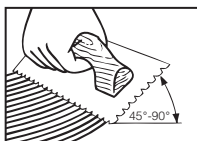

Figure 11
- Hold trowel at a minimum 45° angle (Figure 11) firmly against the subfloor to obtain a 40-60 ft.² (4-5.5 m²) per gallon spread rate. The trowel will leave ridges of adhesive and very little adhesive between the ridges. This will allow you to still see the chalk lines between the ridges and provide the recommended spread rate.